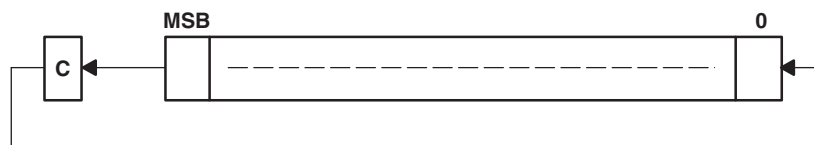

Figure 4-46. Destination Operand-Carry Left Shift
Description	The destination operand is shifted left one position as shown in Figure 4-46 . The carry bit (C) is shifted into the LSB and the MSB is shifted into the carry bit (C).